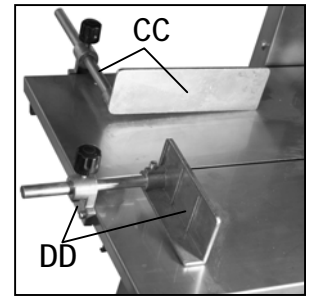

Figure 16
The fence (CC) and pusher (DD) have predetermined spaces for attachment to the table. The fence attaches to the side, the pusher attaches to the end. Using socket screws, attach the fence and pusher to their respective areas. (Figure 16)